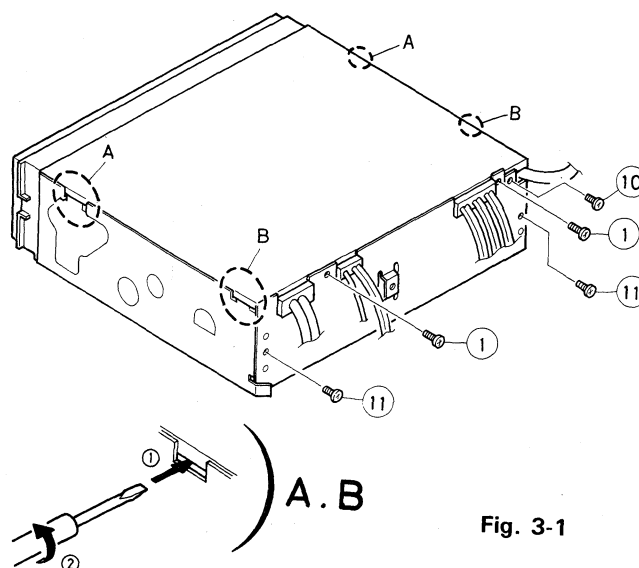

Fig. 3-1
■ Controller and controller holder (Fig. 3-1 ~ 3-3)
1. Remove the two set screws ① in the upper cover.
3. Depress solenoid ① and lower the controller holder forward as indicated at ② in the figure.
4. Remove the screw ② that secures the controller and remove it by pulling it in the direction indicated by the arrow at ③ in the figure.
5. Remove the two set screws ③ in the controller holder, pull it out and disconnect the CN913, CP703, CN703 and CP702 connectors which connect it to the main PCB.